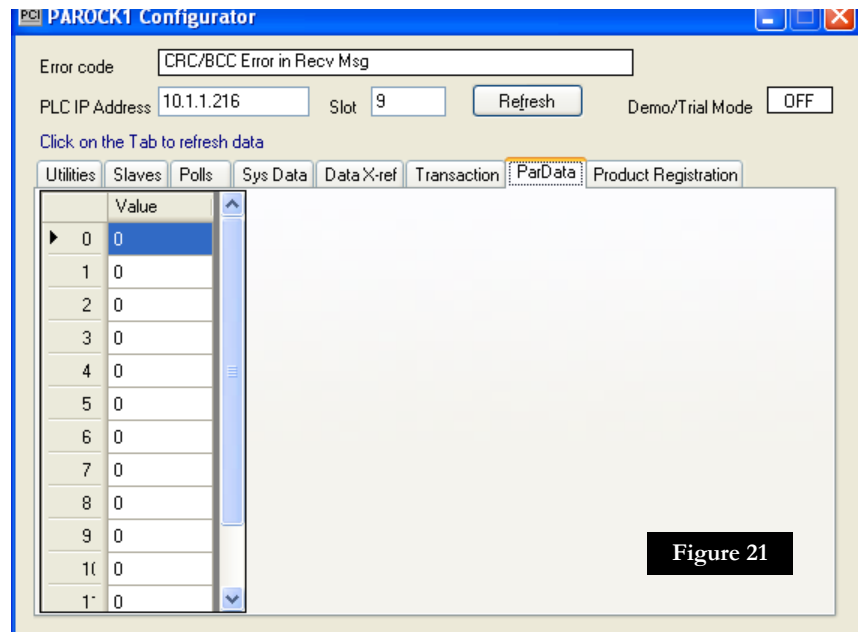

Figure 21
**Par\_Data**—Figure 21 shows the contents of Par\_Data array, the global repository of user data.